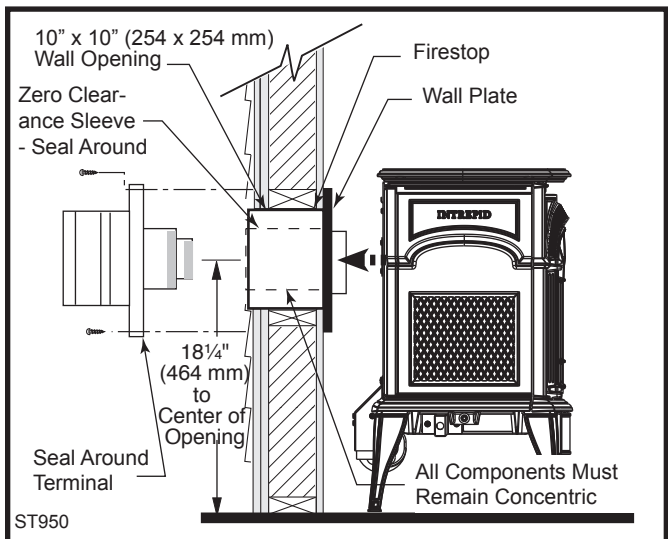

Fig. 22 Intrepid minimum horizontal rear vent installation.
sleeve end with the holes. (Fig. 22) **NOTE:** The zero clearance sleeve is required in combustible walls only.
5. Install the vent terminal. (Fig. 22) Guide the inner and outer vent termination collars into the adjacent pipes. Double check that the vent pipes overlap the collars by 2". Fasten the termination to the outside wall with the screws provided, and caulk the joint with weatherproof sealant.